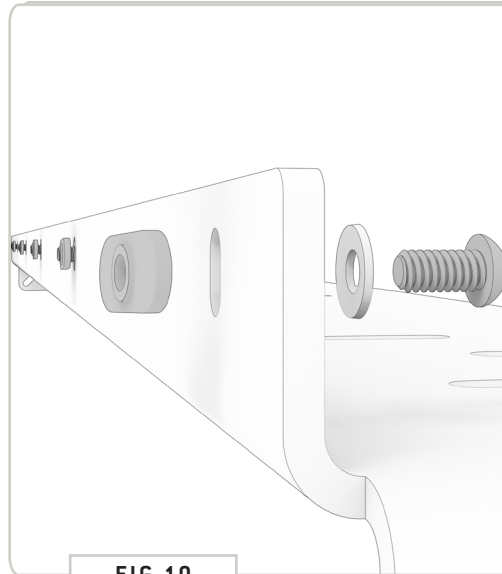

FIG 10
4.1 Crossbar Fairing Bracket: Stack a 1/4-20" x 0.5 Button Head Screw and 1/4" Belleville Lock Washer as shown in FIG 10 and insert into the six available front holes of the **Fairing Light Bar Tray**. Loosely assemble using a **T-Nut**. You'll only want to screw the **T-Nuts** on a little in order to provide clearance for the next step.